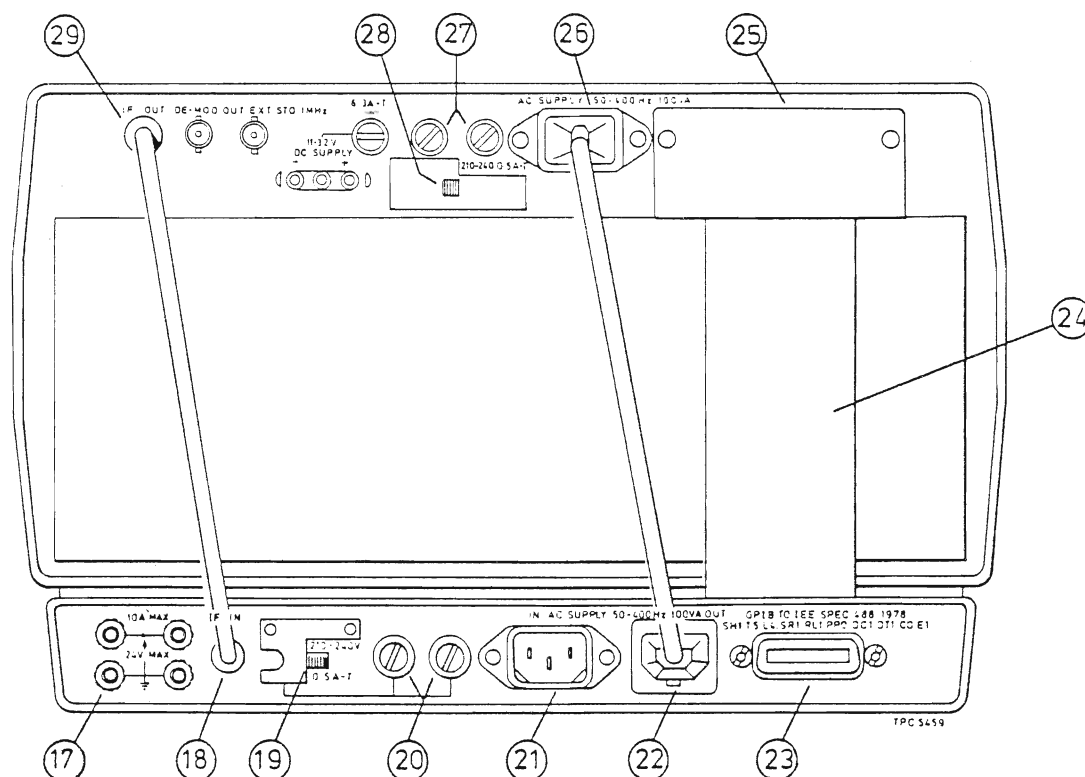

Fig. 2 2958 rear panel controls and connectors
5. Rear panel controls and connectors shown in Fig. 2 are as follows:-
- (17) DC in/out connectors. Used for making power consumption measurements. The d.c. supply for the cellular radio is connected to the leftmost pair of terminals. The d.c. output to supply the radio is connected to the rightmost pair of terminals. In both cases the upper, red terminal is positive (+) and the lower, black terminal is negative (-).
- (18) IF IN socket. BNC socket for connection from the 2955's IF OUT socket (29).
- (19) AC supply voltage selector. To change the Adapter's a.c. range. The 2955's supply voltage selector (28) must agree with this setting. For adjustment details see Chap. 2, Installation.